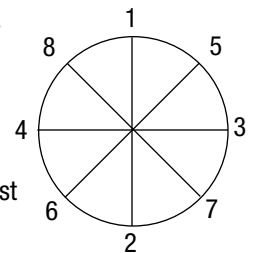

Figure 16 — Star Pattern
- Use a wooden block (2x4 board or similar) and a mallet to lightly tap the seal into position (you must not strike the seal directly with the mallet as damage may occur). Follow a star pattern (see Figure 16) while tapping the seal into position to prevent “cocking” of the seal.